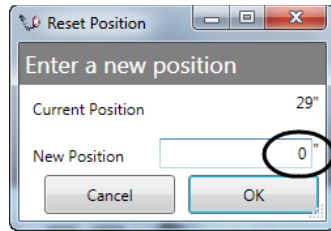

Figure 129
3. Enter “0” in the **New Position** field and click **OK** (Figure 129).